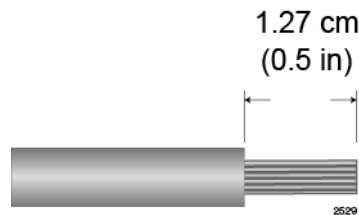

Figure 122. Stripping the Power Wires
1. Prepare adequate lengths of two stranded 8 AWG power wires by stripping them as shown in Figure 122.